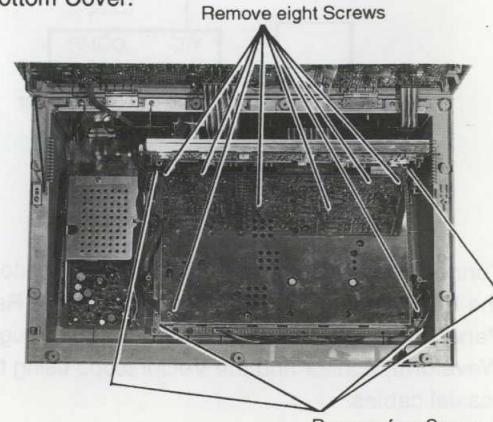

Fig. 2-5
- Referring to the Fig. 2-5, remove eight screws fixing the Shield Cover and remove the Shield Cover, and then remove four screws fixing Digital Board to the Bottom Cover.